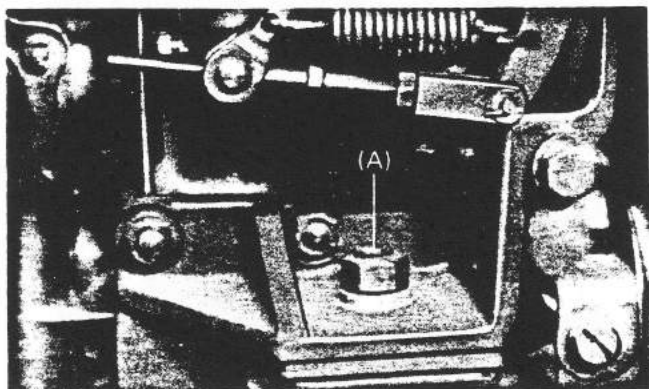

Fig. 9 Nut (A) Position
10. Now the clutch housing and the engine body are removed, however, if the chassis is not completely pulled off the clutch housing, loosen the nuts (A) at both sides shown in Fig. 9.